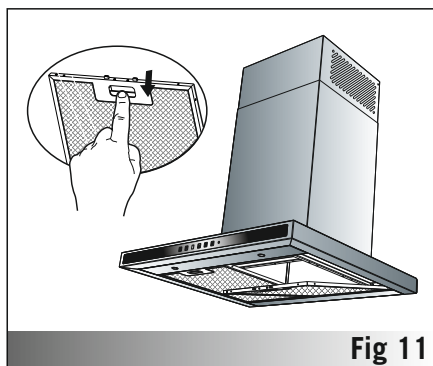

Fig 11
- Aluminum cartridge filter holds dust and grease in the air. Chimney hood should never be used without aluminum cartridge filter. **Figure 11**